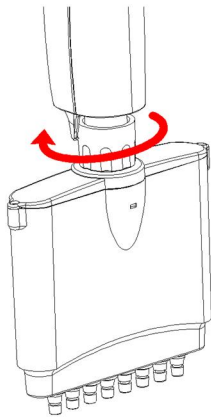
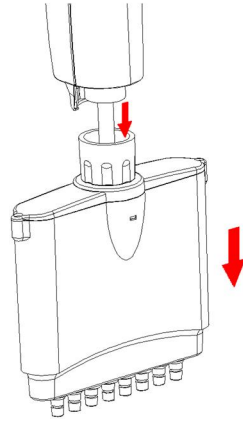

Figure 10: Rotate the connecting nut clockwise.
Figure 11: Pull the lower part downward slowly until the cylinder lock appears.
Only the lower part of pipette can be steam-autoclaved (121°C, 1 bar, 20 minutes). The autoclaved parts must be allowed to dry completely at room temperature for at least 2 hours. You can follow Figures 11~14 to disassemble the pipette. Please DO NOT use excessive force to pull down the lower part before releasing the cylinder lock as shown in Figure 10. This action may break the connection mechanism of the lower part.
2. Loosen the lower part of the pipette by rotating the connecting nut in the clockwise direction as shown in Figure 11.